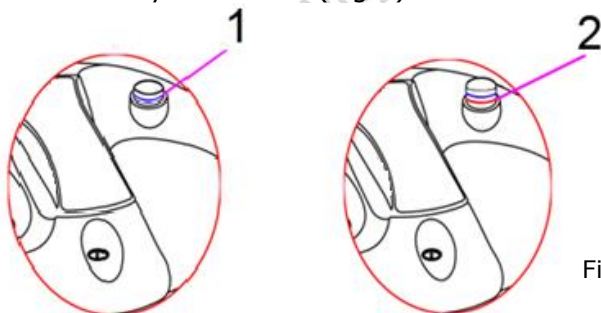

Fig.7
3. The pressure level indicator valve makes it easier for you to know the pressure inside your cooker (Fig 7):